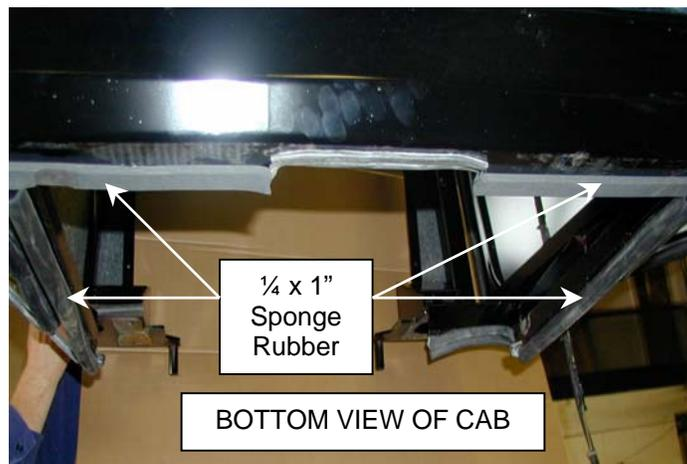

Figure 3A
- A. Install the $\frac{1}{4}$ " x 1" self stick sponge rubber to underside of the cab. (Onto the 1" lip) See figure 3A.